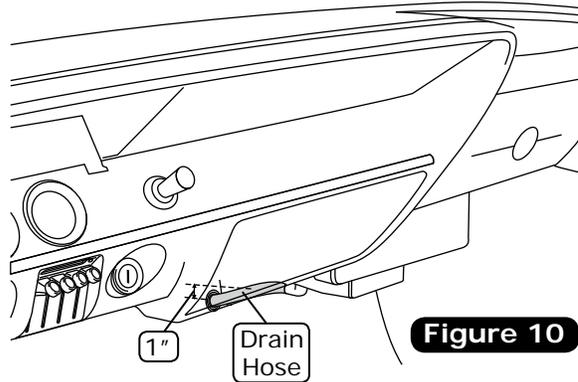

Figure 10
2. In line with the drain, lightly make a mark on firewall. Then, measure 1" down and drill a 5/8" hole through the firewall (See Figure 10, below).